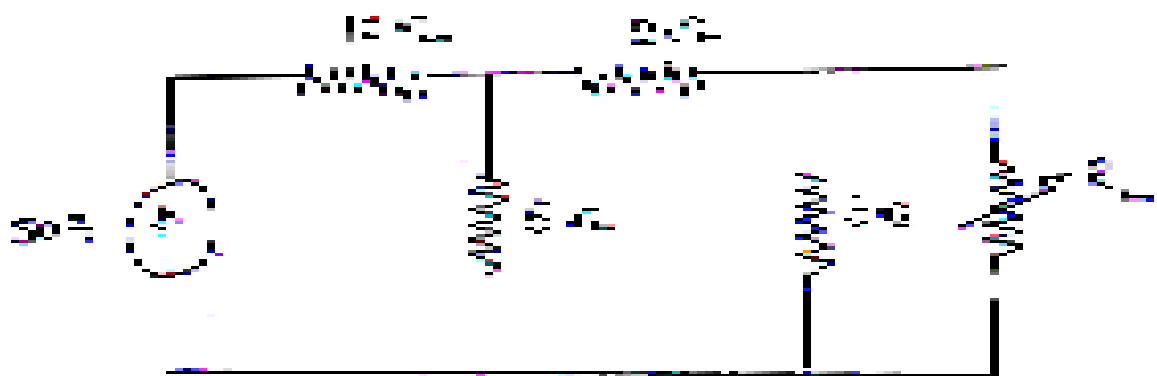

Fig. 3
- b) Determine the maximum power delivered to the load, as shown in Fig. 3. 10